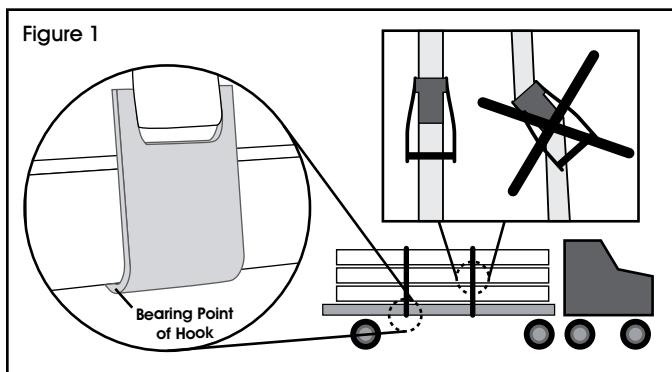

Figure 1
**NOTE: Handle must always be in line with direction of pull to achieve Working Load Limit. (See Figure 1)**